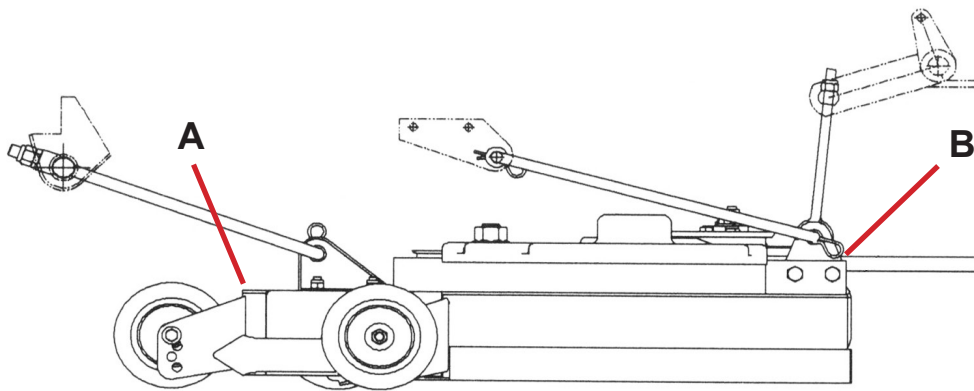

Figure 6
5. *See Figure 6.* Position A is located in middle front of the mower deck. Position B is located behind the mower deck on each side.